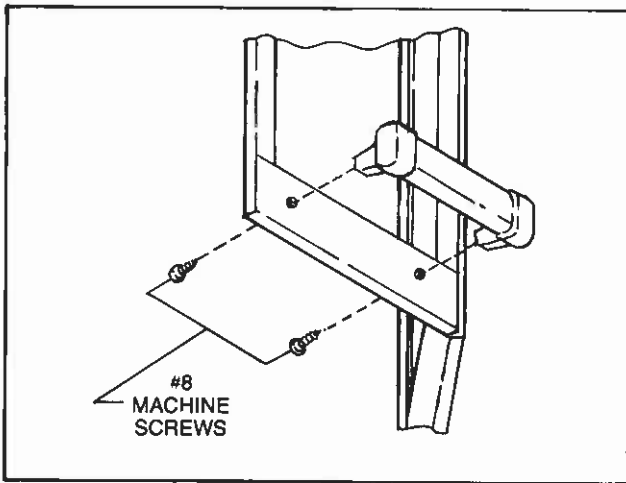

Fig. 5. Mounting door handles.
6. Mount the door handles to the glass doors. Using four (4) #8 machine screws, mount the door handles to the two (2) inboard doors at the bottom. The inboard doors are the panels with two (2) holes provided for the machine screws. The mounting of the door handles is shown in Fig. 5.